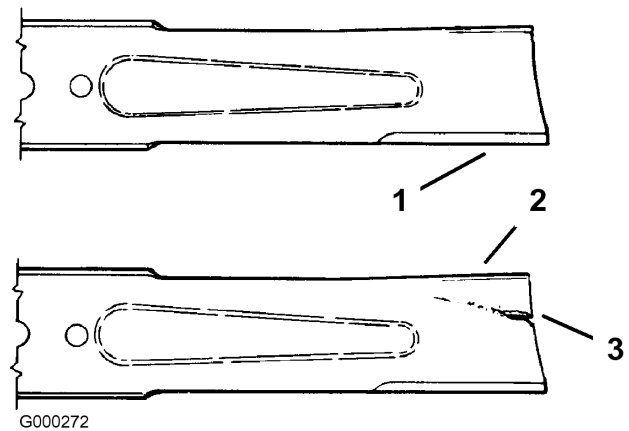

Figure 38
1. Inspect the cutting edges (Figure 38). If the edges are not sharp or have nicks, remove and sharpen the blades. Refer to Sharpening the Blades.
2. Inspect the blades, especially the curved area (Figure 38). If you notice any damage, wear, or a slot forming in this area (item 3 in Figure 38), immediately install a new blade.